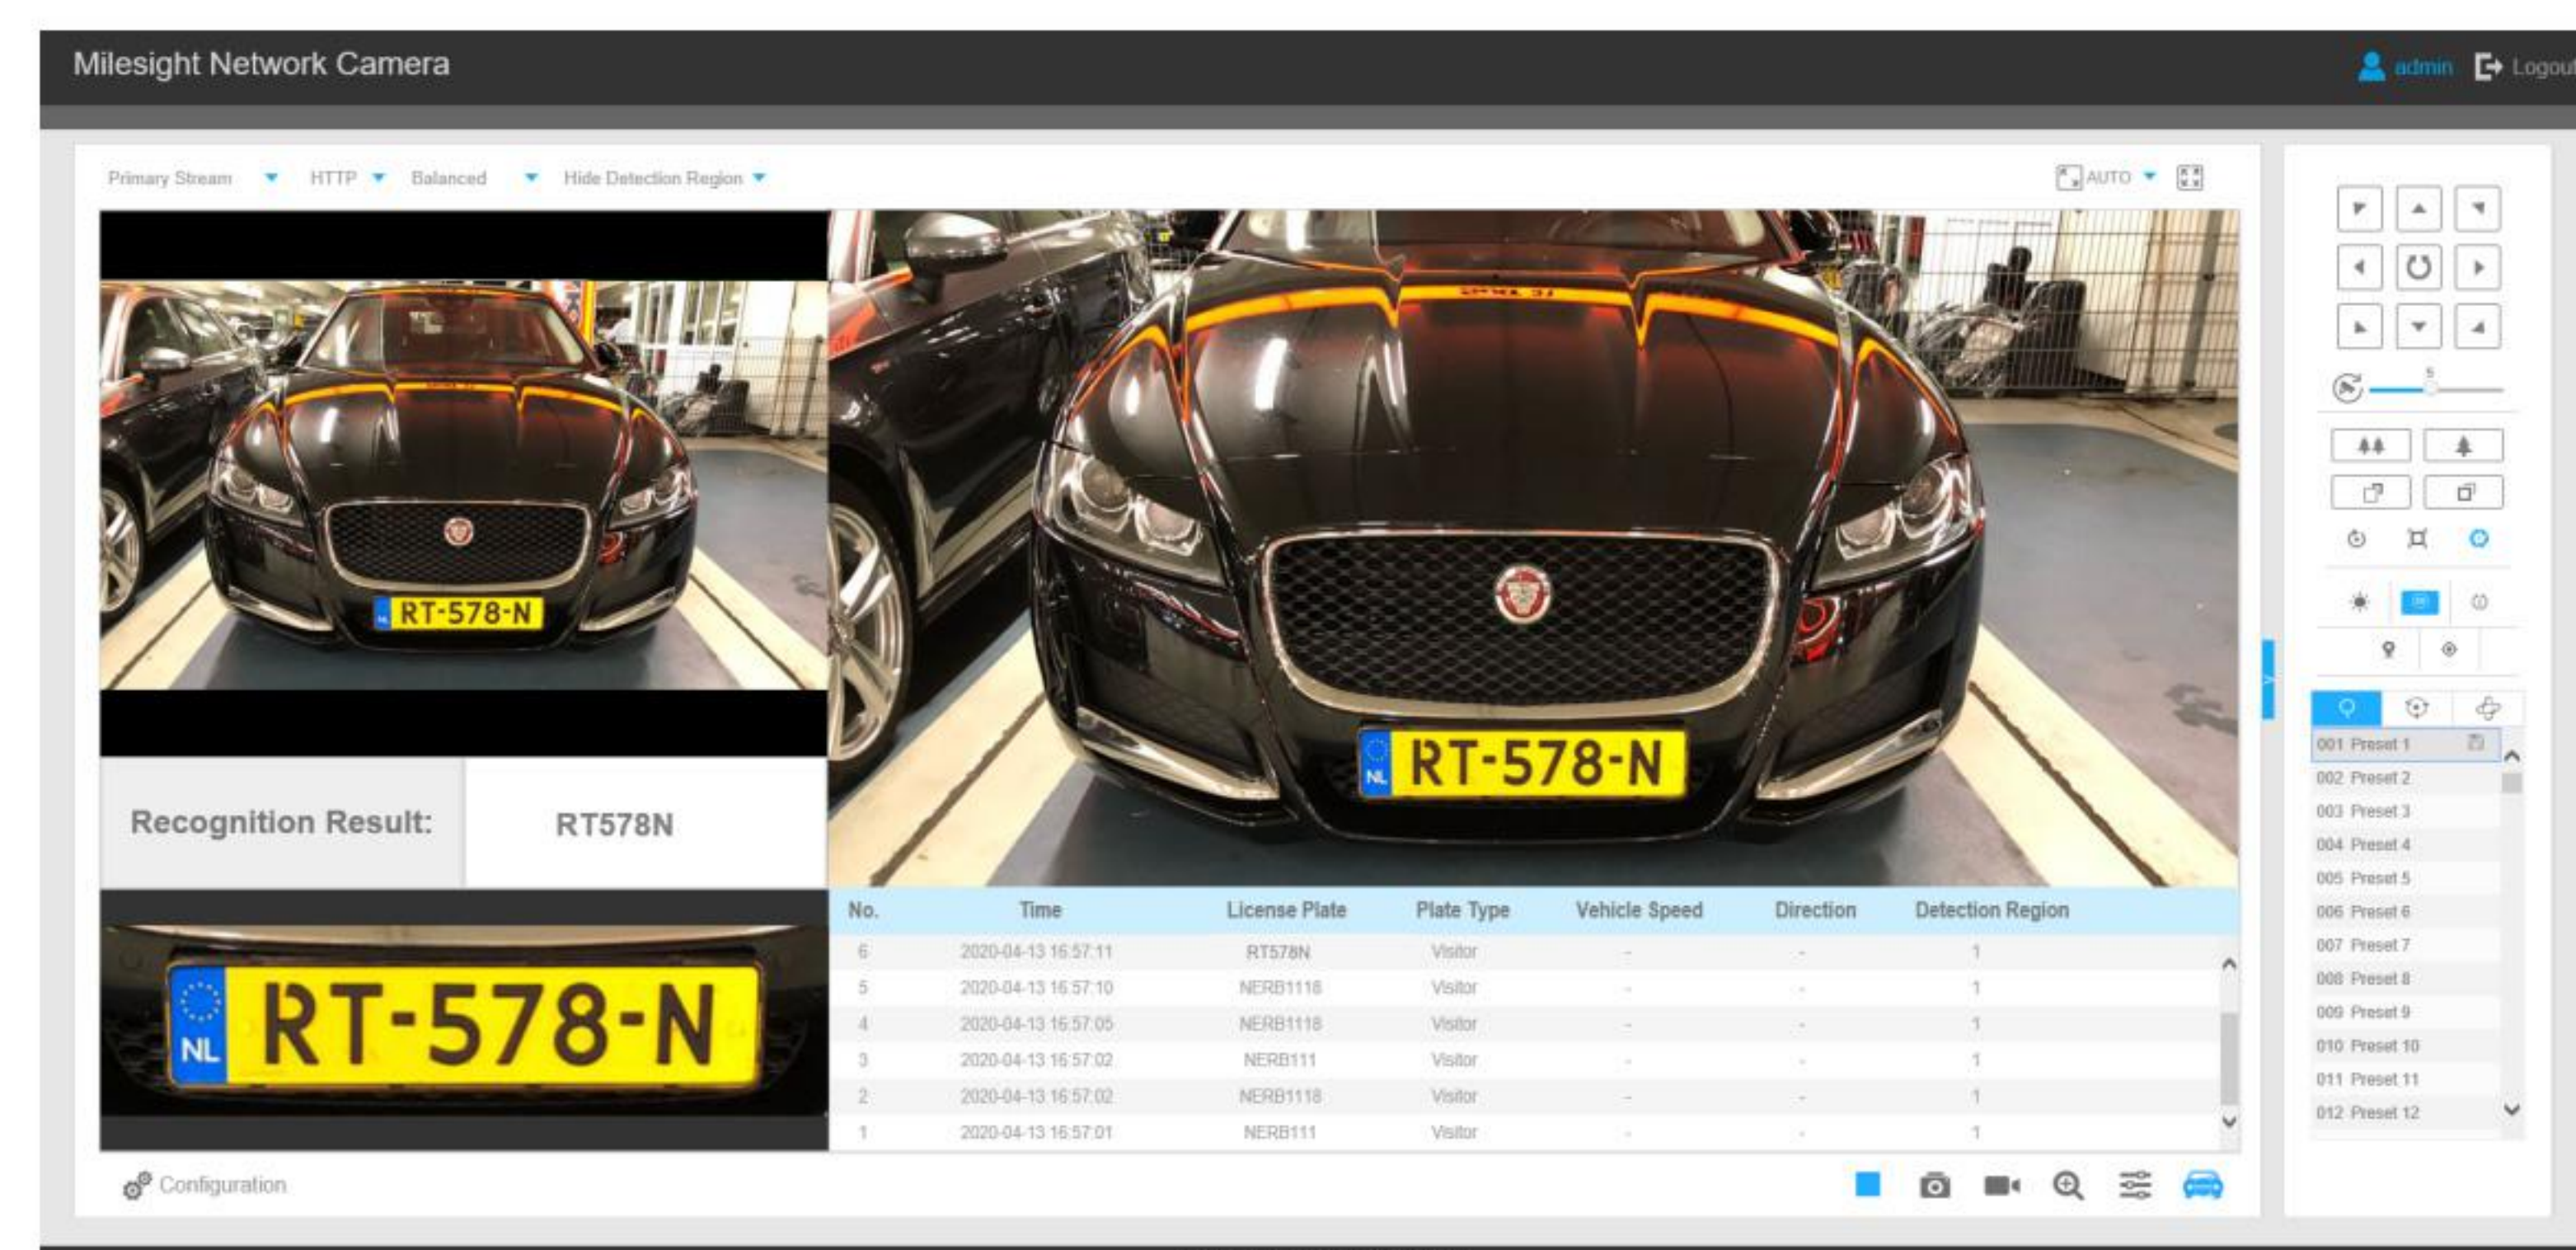
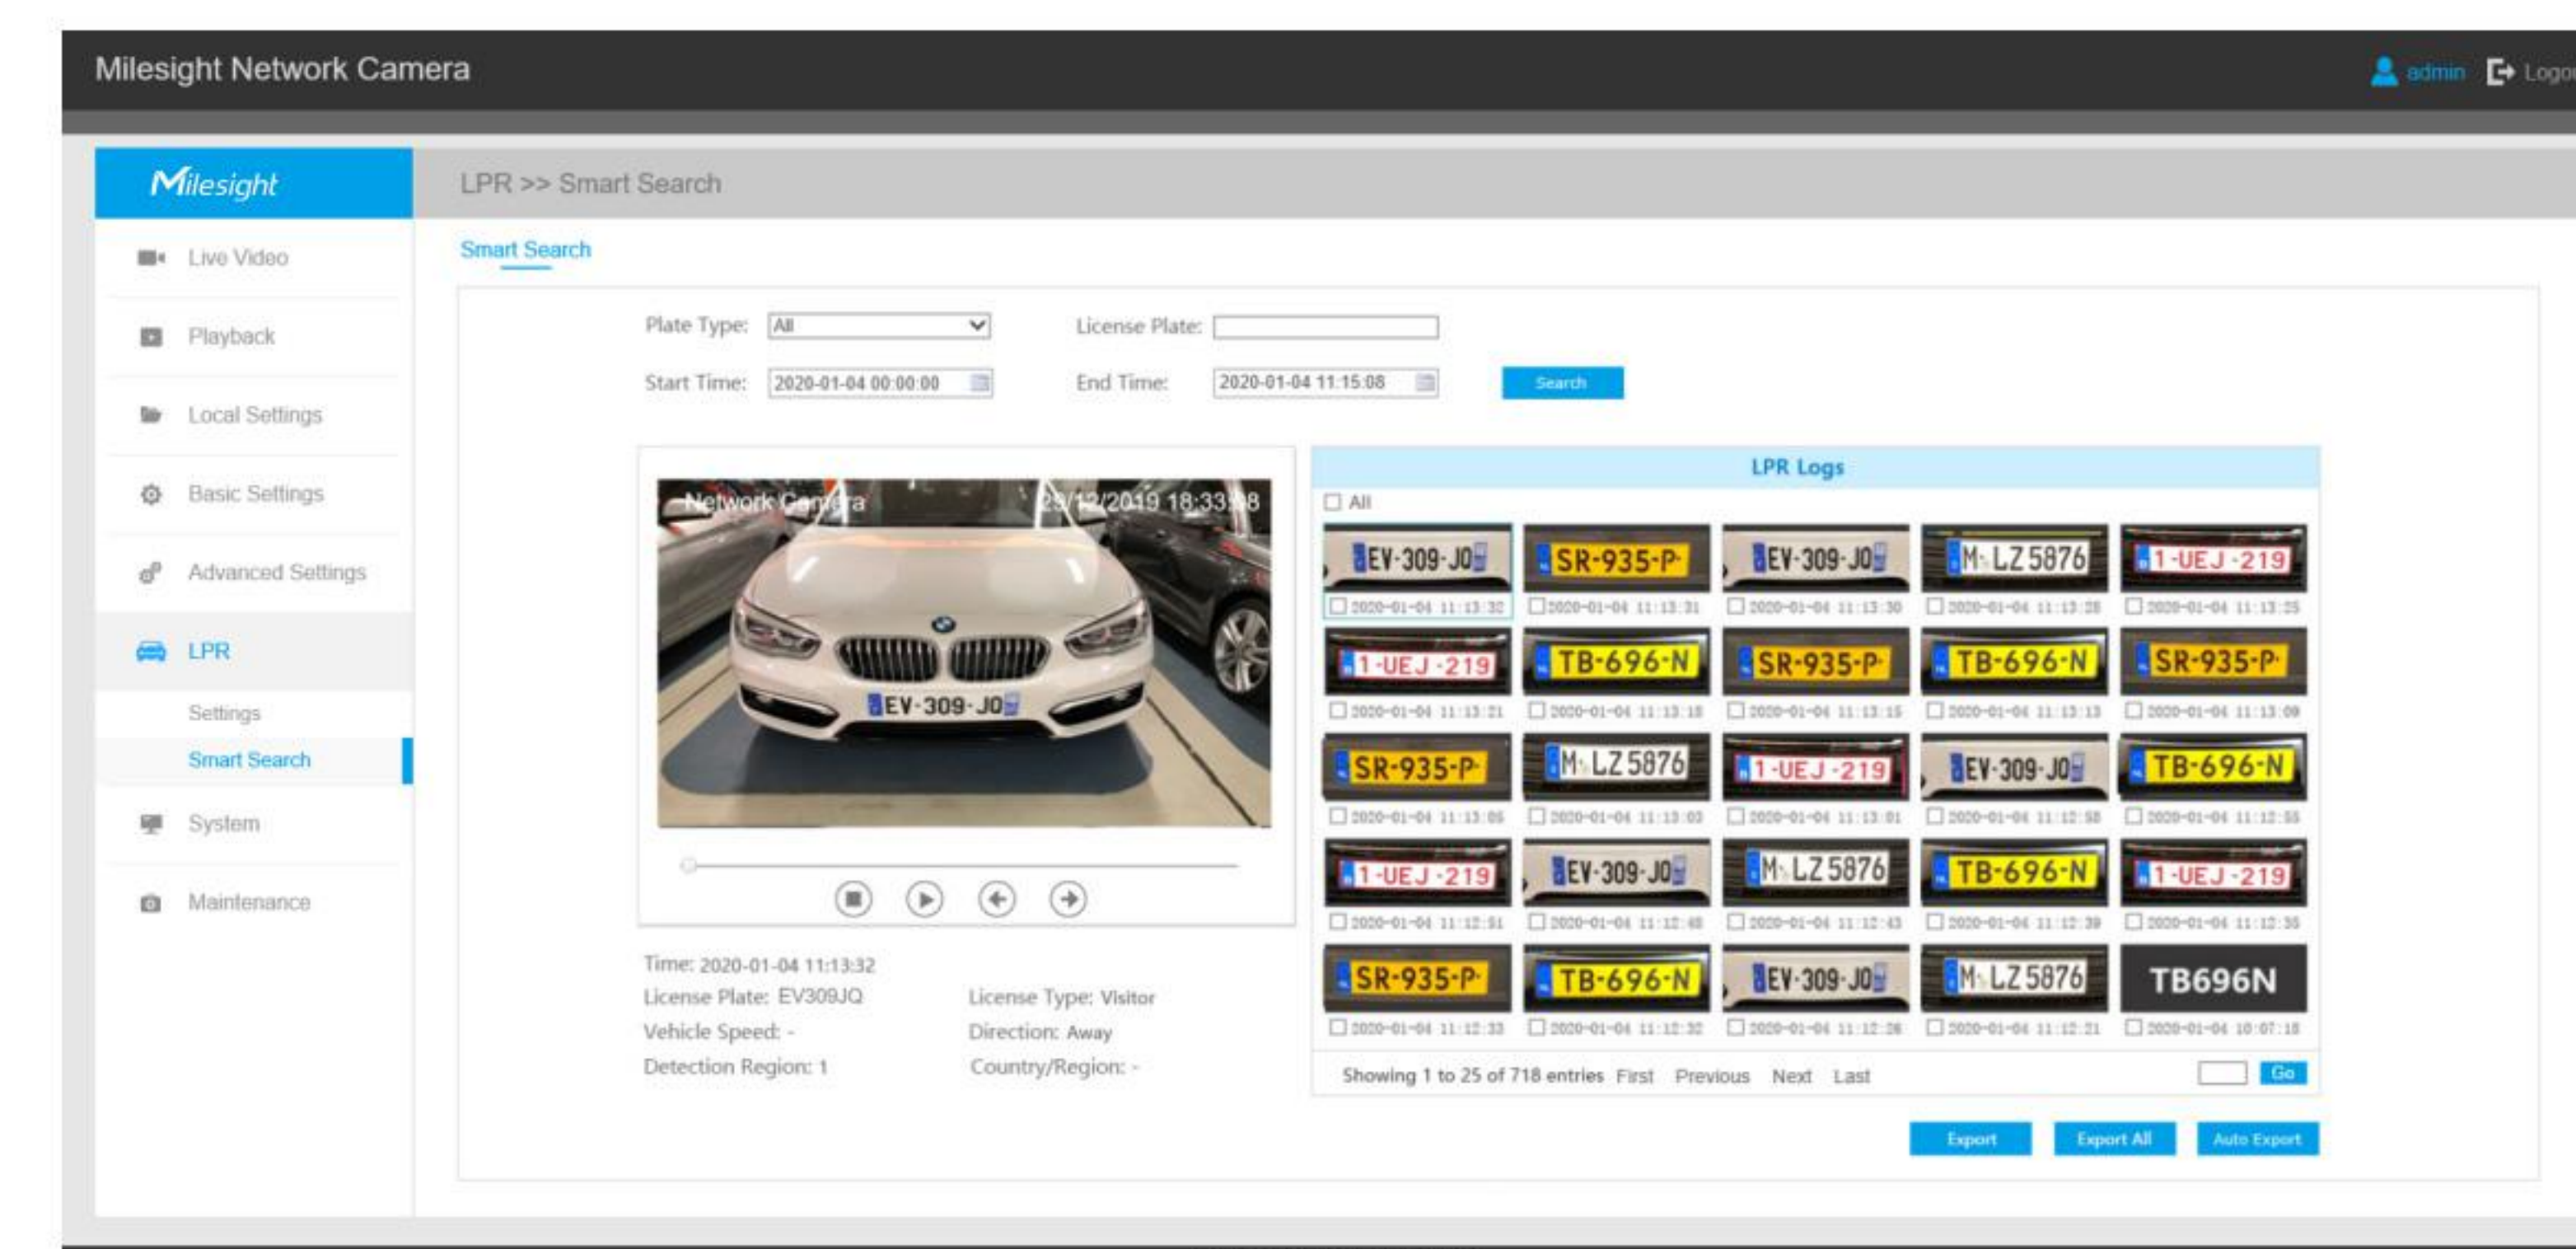

Figure 7
Figure 8
Step 4: Output result. The results from LPR detection will be displayed on the Live View in real time. (Figure 7) On the page of Smart Search shown below, you can search for the text message, while snapshots and videos in storage are available as well. All the data and files can be exported. (Figure 8)